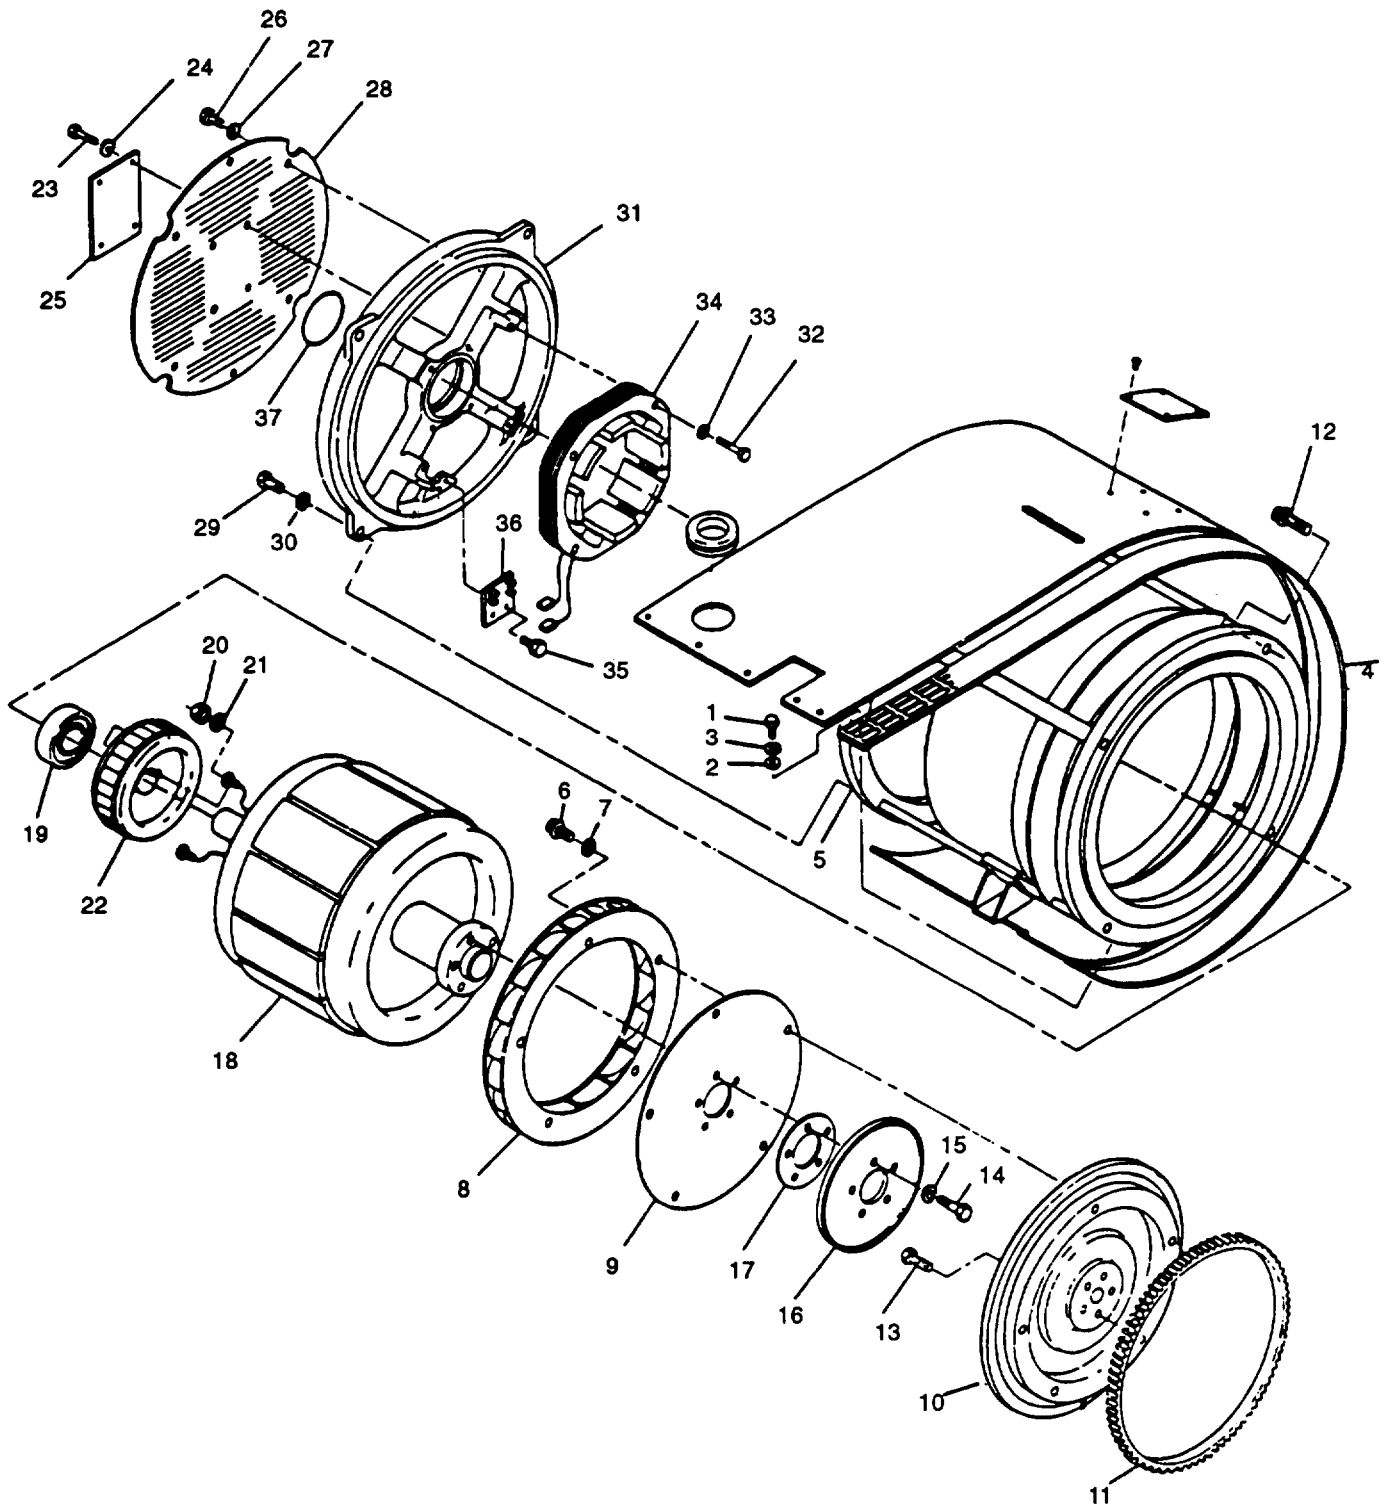

FIGURE 4-25. Generator Assembly (MEP-813A)
- e. Remove bolt (1, FIGURE 4-25), washer (2), lockwasher (3), and screen (4) from generator frame/stator assembly (5).
- g. Remove bolts (6) and washers (7) securing fan (8) and drive plate (9) to flywheel (10).
- h. Remove bolts (12) and gently pry (screwdriver slots provided) generator assembly away from engine assembly.
- j. Remove bolts (13) and flywheel (10) from engine crankshaft.
- a. Using overhead lifting device, carefully lift and position generator assembly on work table with end bell (31, FIGURE 4-25) resting on table.
- b. Remove bolts (14), lockwashers (15), retention disk (16), spacer (17), drive plate (9), and fan (8) from rotor assembly (18).
**Use care to avoid contact between frame/stator assembly (5) and rotor assembly (18).**
- c. Attach overhead lifting device to rotor assembly(18) and carefully lift rotor assembly (18) out of frame/stator assembly (5).
- d. Using gear puller, remove bearing (19) from rotor assembly (18).
- e. Tag and disconnect F1+ and F2- leads from rotating rectifiers by removing nuts (20) and washers (21).
- f. Using gear puller, carefully remove exciter rotor (22) from rotor assembly (18).
- h. Remove bolts (23), lockwashers (24), retention plate (25), bolts (26), lockwashers (27), and cover (28) from end bell (31).
- i. Remove bolts (29), washers (30), and end bell (31 ) from frame/stator assembly (5).
- j. Tag and disconnect exciter stator leads and AC voltage regulator leads from terminal block (36).
- k. Remove bolts (32), lockwashers (33), and exciter stator (34) from end bell (31).
- L Remove bolts (35), terminal block (35), and packing (37) from end bell (31).
- a. Inspect end bell assembly (31, FIGURE 4-25) for cracks, torn packing (37), broken terminal board (36), and other damage.
- b. Inspect exciter stator (34) for broken windings, evidence of overheating, damaged insulation, and loose terminal ends.
- c. Inspect bearing (19) for looseness and evidence of overheating.
- d. Inspect exciter rotor (22) for broken windings, evidence of overheating, damaged insulation, and other damage.
- e. Inspect rotor assembly (18) for broken windings, evidence of overheating, damaged insulation, and loose terminal ends.
- f. Inspect frame/stator (5) for broken windings, evidence of overheating, damaged insulation, loose terminal ends, and damaged housing.
- g. Inspect drive plate (9) and retention disk(15) for bends, cracks, elongated mounting holes, and other damage.
- h. Inspect flywheel (10) for cracks, broken teeth, stripped threads, and other damage.
- i. Inspect generator fan (8) for cracks, bent, or broken blades and other damage.
- a. If ring gear (11, FIGURE 4-25) is damaged, place the flywheel (10) on a solid surface.
- b. Drive ring bearing gear (11) off with a brass drift and hammer.
**Wear protective gloves to help prevent burns from handling hot ring gear (11).**
- c. Heat new ring gear (11) to 300°F (148°C) using either heated oil, oven heat, or frame heat.
- b. Coat mating area between bearing (19, FIGURE 4-25) and end bell (31) with grease (Item 9, Appendix C).